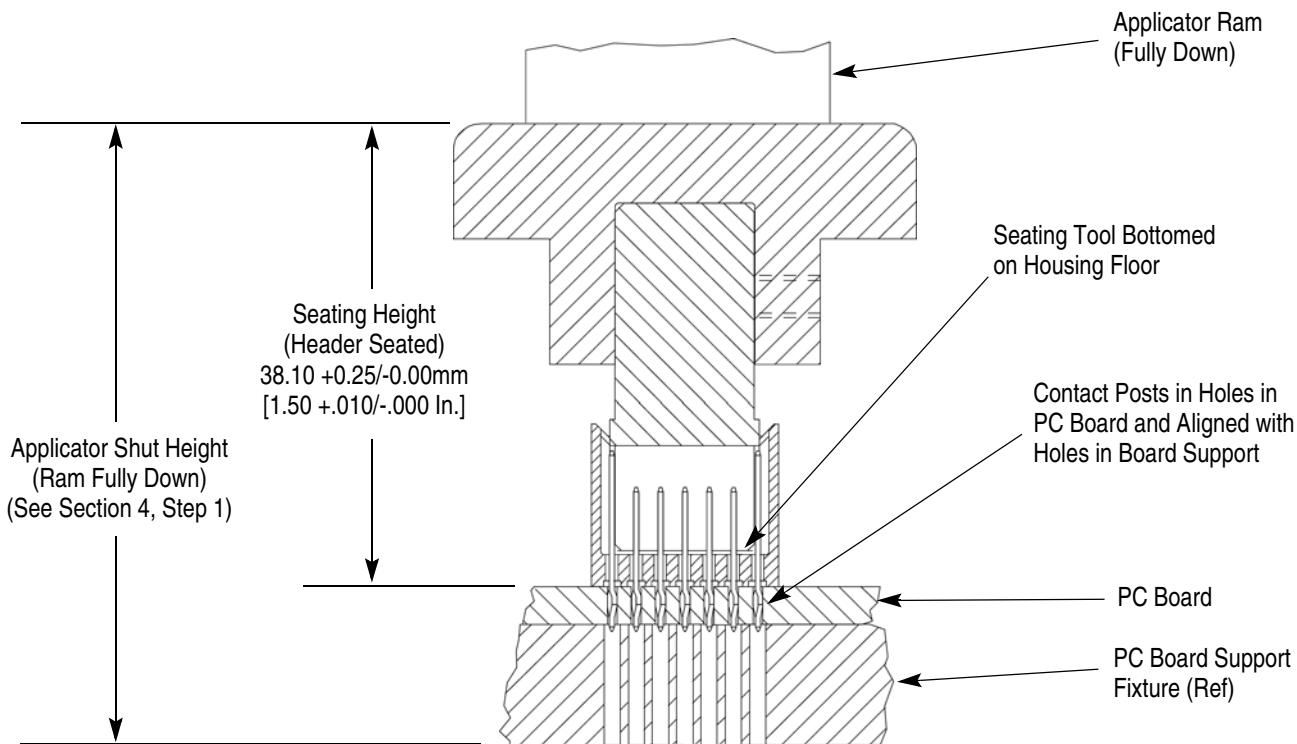

Figure 3
- Set seating height to the dimension shown in Figure 3 (applicator shut height will equal the seating height PLUS the combined thicknesses of the pc board and pc board support).
- Cycle applicator ram according to instructions for the power source. Check assembly for proper seating using the requirements in Figure 3.